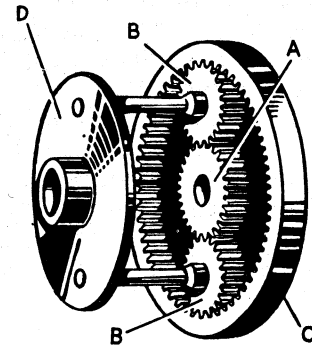
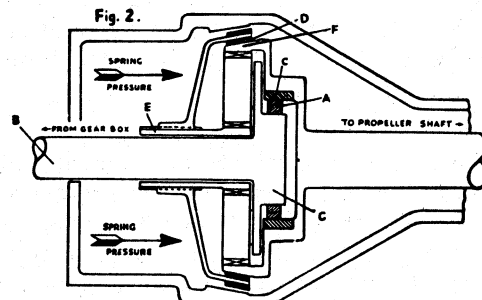

Fig. 1 Principle of an Epicyclic Gear.
Fig. 2 Operation in Direct Drive.
THE PRINCIPLE (Fig. 1).
In addition to an epicyclic gear train similar to the one depicted in Fig. 1, there is also a hydraulic pump, a hydraulic accumulator or pressure storage chamber, a roller clutch and a sliding cone clutch. When in direct top gear (see Fig. 2) the overdrive is inoperative. The
drive from the gearbox to the propeller shaft is taken through the rollers (A) from the gearbox main driving shaft (B) to the outer member of the uni-directional clutch (C), and so direct drive is transmitted. The roller clutch drives in one direction only, and therefore if the car were to over-run the engine, the rollers would be pushed down the inclined surfaces away from the annulus or output member and the drive broken, leaving the car without engine resistance to assist braking. This problem is overcome by means of a cone clutch (D). This clutch slides on the sun wheel splined extension (E) (Fig. 2) and it is pushed by springs to engage with the corresponding cone of the annulus (F). This, therefore, locks the sun wheel to the annulus. Between the annulus and the sun wheel are the planet wheels which are carried by the planet carrier (G) which is mounted on the driving shaft (B). The planet wheels are therefore also locked and resistance to over-run is provided by the engine through the gearbox and main drive shaft to the planet wheels.